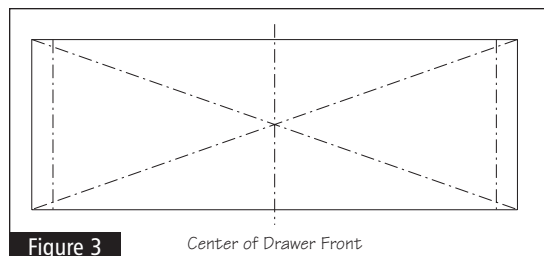

Figure 3
**3** Measure the inside width of the drawer opening on the cabinet frame. Subtract 1/2" from this measurement then divide by 2. Mark a line on each side of the drawer front this distance from the center of the drawer front. See Figure 3.